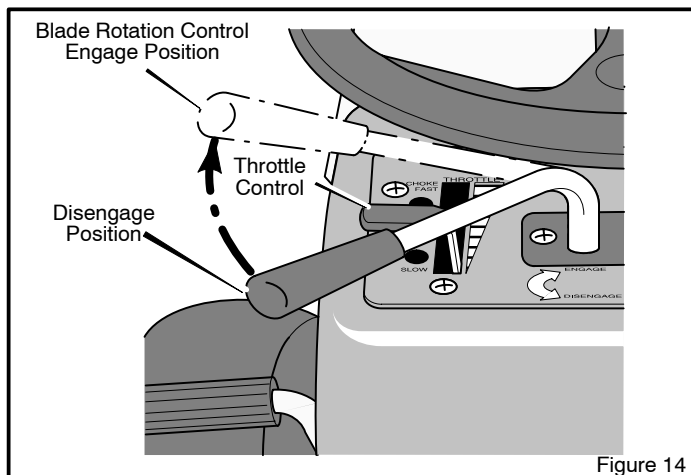
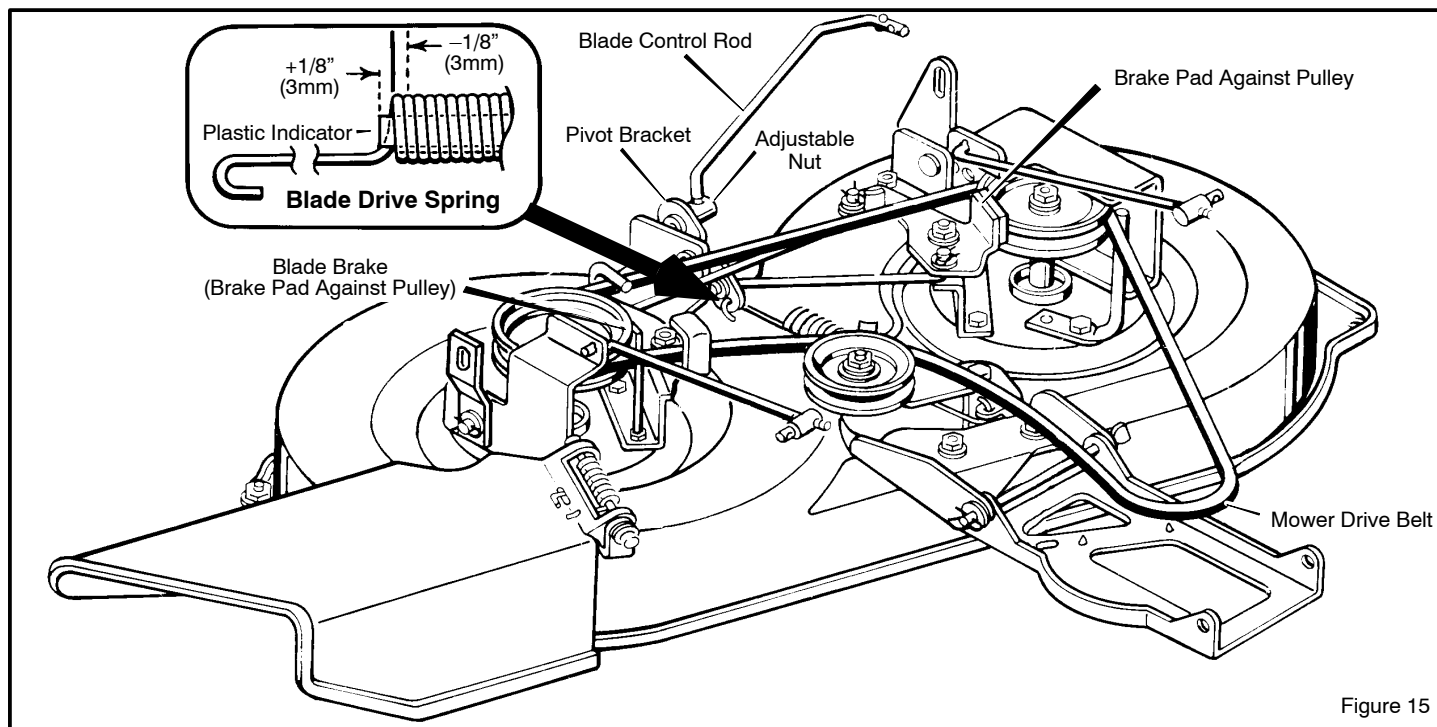

Figure 14
Figure 15
4. Move the **blade rotation control** to the **ENGAGE** position (Figure 14). Check the **plastic indicator** inside the **blade drive spring** (Figure 15). The end of the **plastic indicator** must be aligned (+ or - 1/8 inch / 3 mm) with the last coil of the **blade drive spring**.